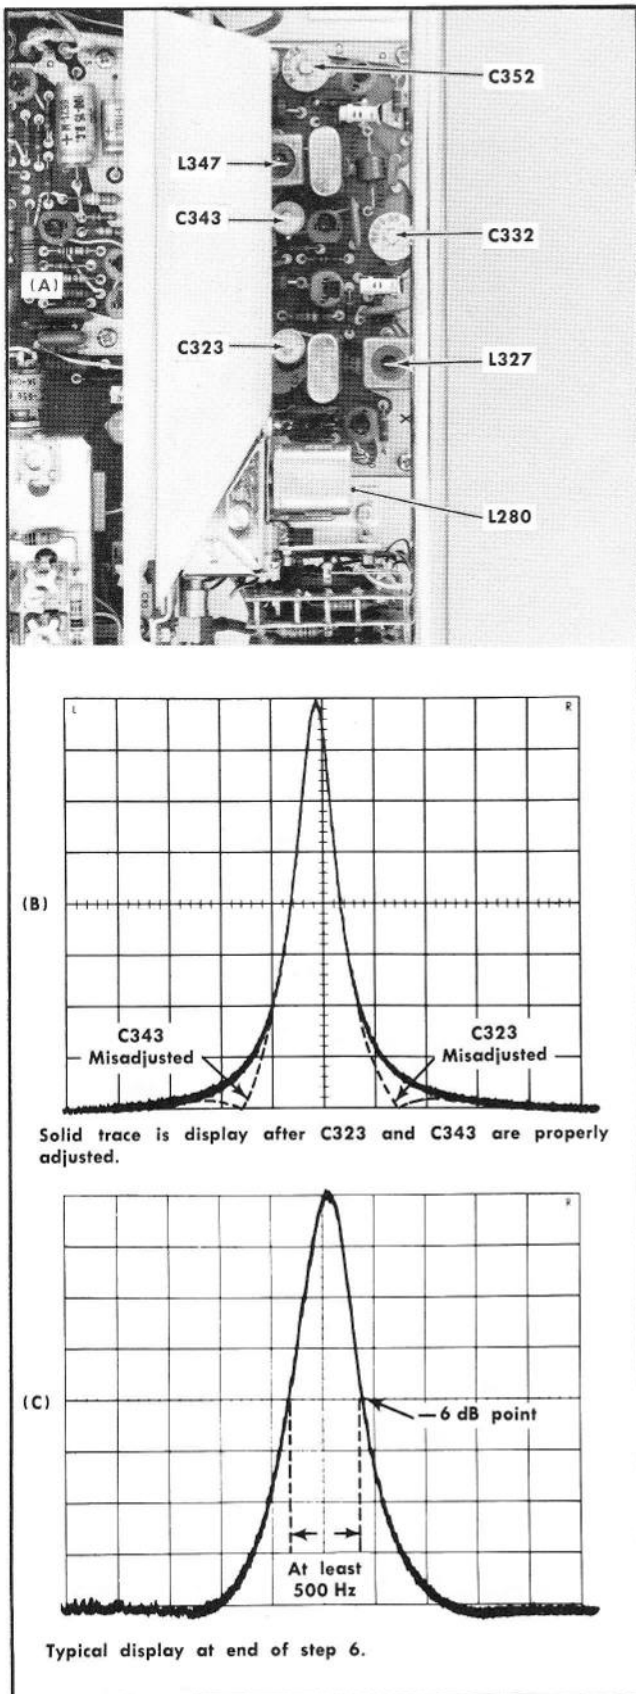

Fig. 6-9. (A) Location of adjustments; (B) and (C) typical spectrum displays for Variable-Resolution Amplifier response.
b. Apply a 50 kHz signal from the low frequency signal generator to the INPUT connector of the Type 3L5. Adjust the generator output and frequency controls for a centered signal that is 6 divisions in amplitude. See Fig. 6-9.